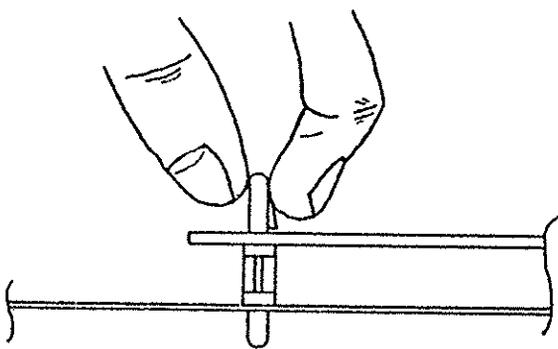

FIG. 1
4. Remove wires from old EDC board. To remove board from electric box, squeeze fastener as shown in Fig. 1 and carefully lift board off one corner at a time.